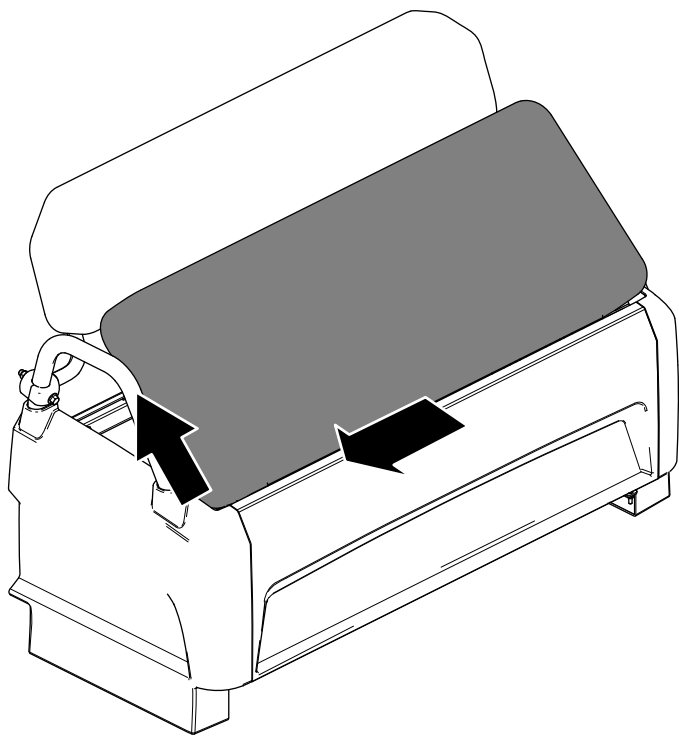

Figure 32
2. Slide the cushion to the side, out of the pins, and lift the cushion upward (Figure 32).